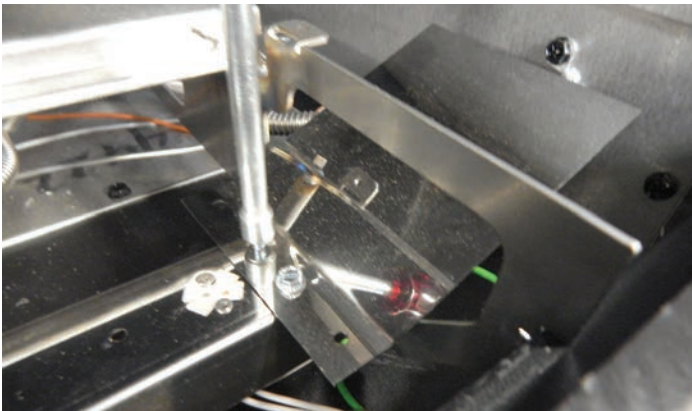

Figure 10
14. Attach two End Deflectors (one at each end of the Light bracket assembly) with (2) #8 X 1/4" Screws each. **See Figure 10.**